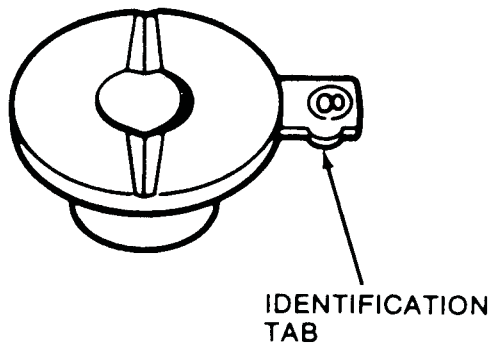

Figure 106
6. If more or less end end play is required, select the proper thrust washer from the chart in Figure 106 and install. The selective washer which controls front end play is placed on top of the output shaft before the drums are installed, and is shown in Figure 106.